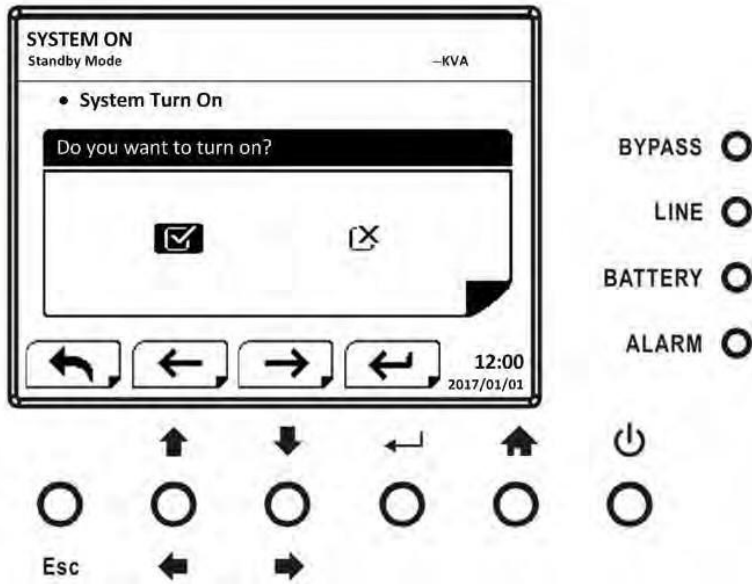

Figure 5-8 Confirmation screen
When the control option is selected by pressing “←” button, the confirmation screen will pop up. Use “←” or “→” button to choose “☑” (YES) or “X” (NO). Choose “☑” and press “←” button to confirm command or choose “X” to cancel command, as shown in Figure 5-8.